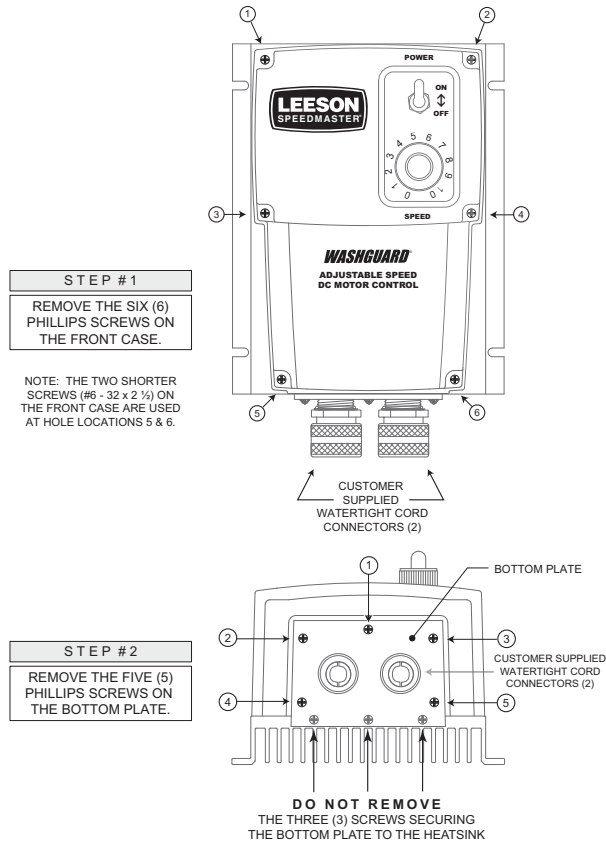

Figure 2. Cover removal for terminal strip access
1. Remove the six (6) phillips screws on the front cover. NOTE: The two shorter screws (#6 - 32 x 2 ½) are for the two lower holes on the front of the cover (see Figure 2, page 6).
2. Remove the five (5) phillips screws on the bottom plate (see Figure 2, page 6). NOTE: DO NOT remove the 3 screws securing the bottom plate to the heatsink.